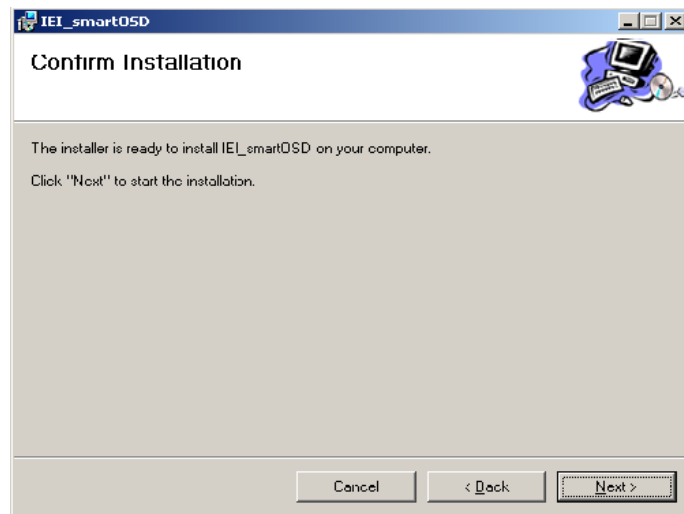

Figure C-4: smartOSD Confirm Installation
Step 8: The screen in **Figure C-4** appears.